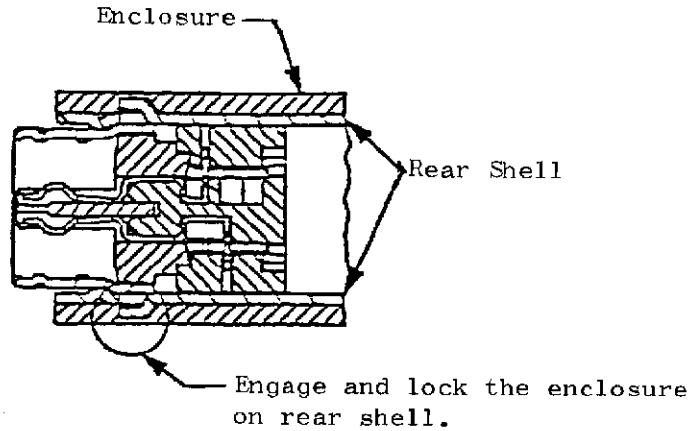

Fig. 15
- 6.6 Apply enclosure (cover) over the rear shell, and have them engaged to lock together, and in addition, confirm to have them locked on rear shell as shown in Fig. 15.